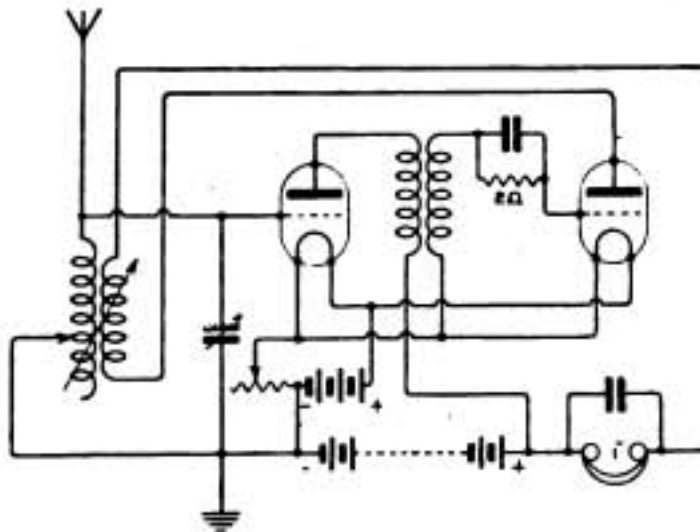

Fig. 2.
A diagram showing how to connect up is shown in diagram (Fig. 2).
"J.G.H." (East Sheen) refers to page 613, December 24th issue, Fig. 2, and asks (1) If an A.T.I. 11" x 4 1/2" of No. 24 may be used. (2) For
(1) and (2) Yes, quite suitable. Connect up as in circuit, Fig. 2, page 140, April 29th issue, where other helpful details will be found. (3) It is usually a disadvantage to have your aerial crossed by telephone wire, although perhaps they will not have any very serious effect. If you get overhearing you should report the matter to the Post Office authorities. (4) It is doubtful if a beginner would be successful in receiving 2MT on a single valve set in Lancashire.